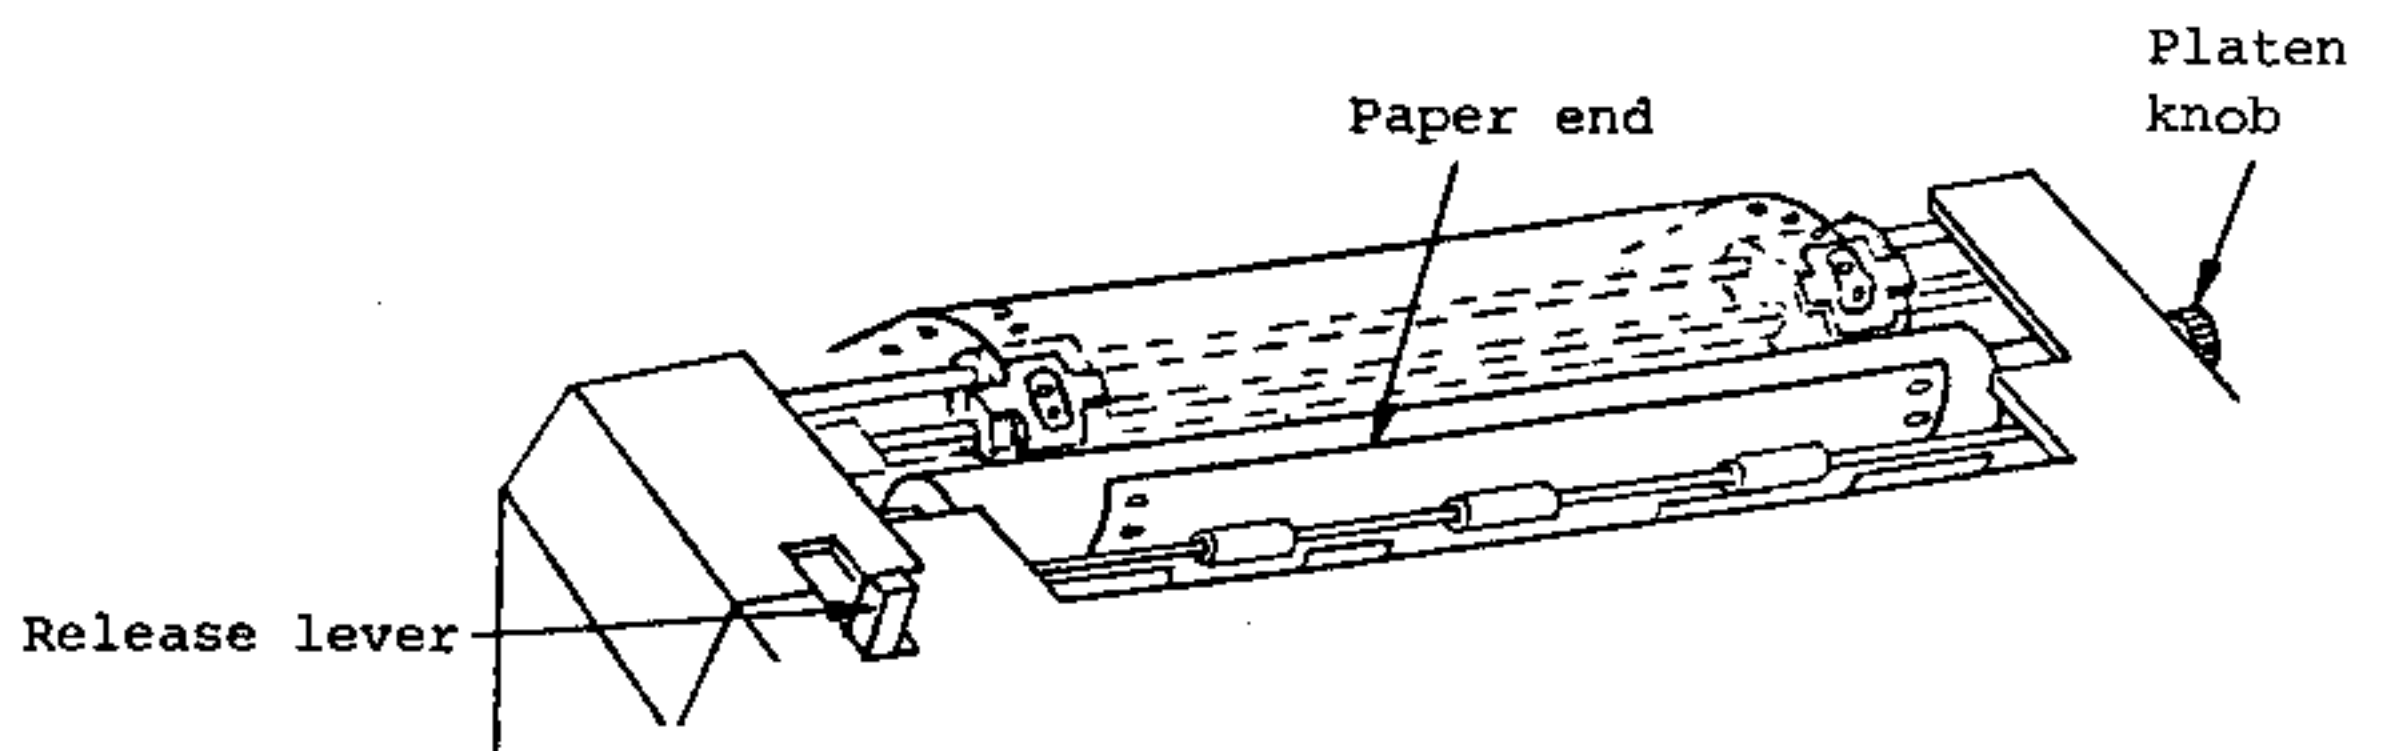

Fig. 12 Paper Insertion (3)
- (c) Now push down the paper clamps of the sprocket tractors. Turn the platen knob clockwise, bringing the paper out on the front side of the platen. Return the roller shaft and release lever to their previous positions (refer to Fig. 12).